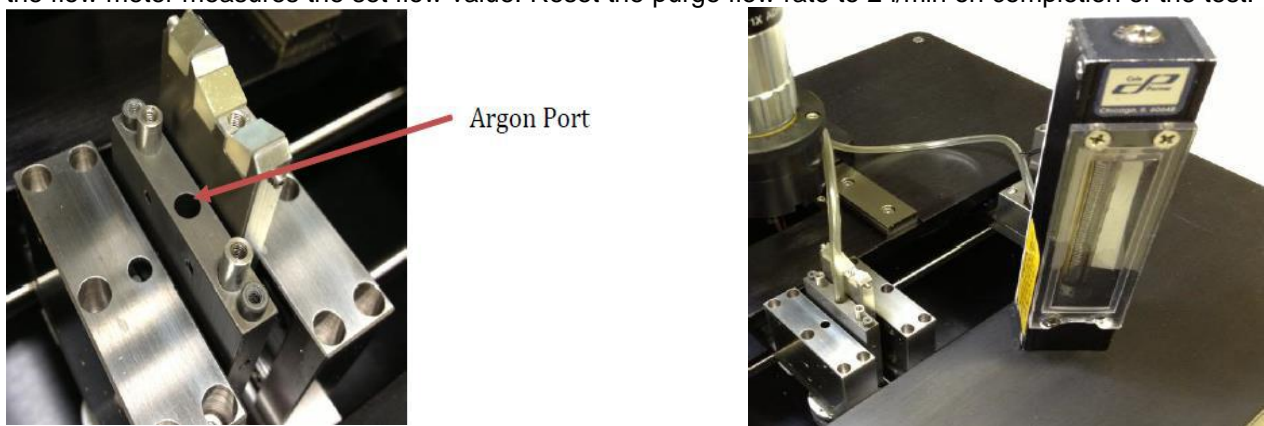

Figure 56 Image of Argon Gas Port (Left). Flow Meter in Vertical Position (Right)
6. Insert the flow meter tube into the argon port as shown in Figure 56. Place the flow meter vertically on a solid surface for the most accurate reading.